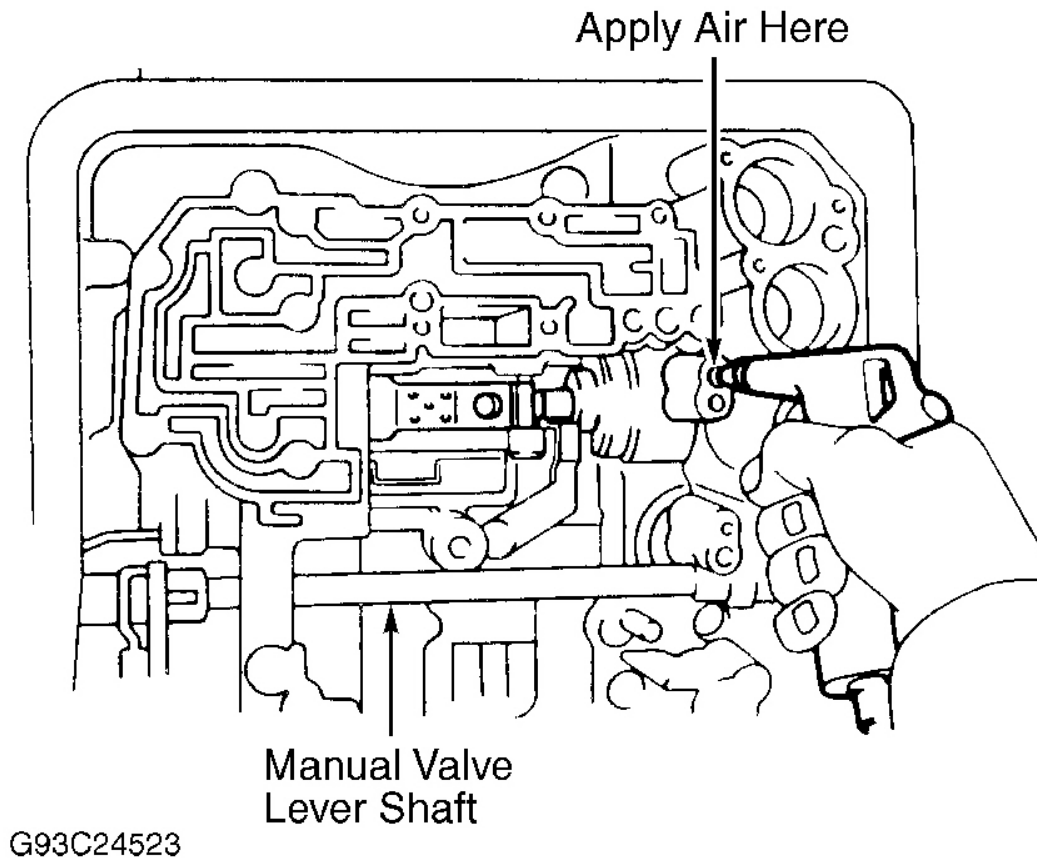

Fig. 40: Checking 2nd Coast Brake Band
18. Measure 2nd coast brake piston stroke by applying compressed air to oil passage in transaxle case. See **Fig. 40** . Piston stroke should be .059-.118" (1.50-3.00 mm). If piston stroke is not within specification, replace piston rod. Piston rods are available in lengths of 2.811" (71.40 mm) and 2.870" (72.90 mm). Recheck piston travel after changing piston rod. If travel still exceeds specification, replace 2nd coast brake band.
19. Apply compressed air to oil passage and check piston rod movement. See **Fig. 40** . Coat accumulator piston "O" rings with ATF. Install "O" rings on accumulator pistons. Check accumulator spring free length. See **ACCUMULATOR SPRING SPECIFICATIONS** . Replace as necessary. Install pistons and springs in appropriate locations. See **Fig. 41** . Install accumulator cover and gasket. Tighten bolts to 89 INCH lbs. (10 N.m).